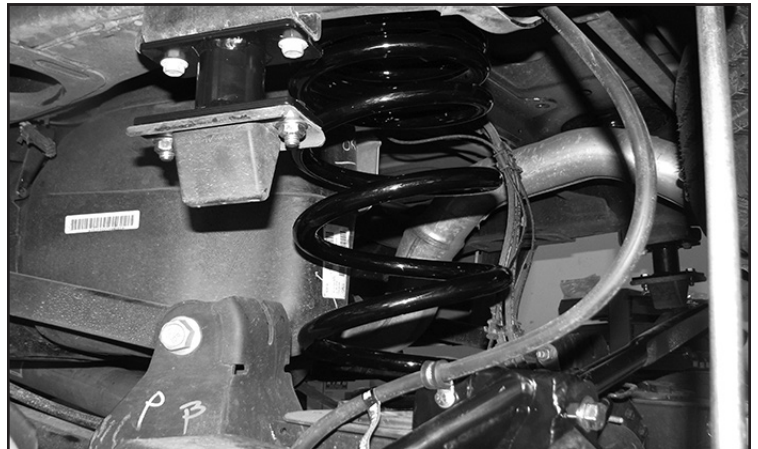

FIGURE 68 - STEP 61
61. Locate and Install (FT44321BK) Fabtech rear spring using the factory rubber isolators as shown. **SEE FIGURE 68**